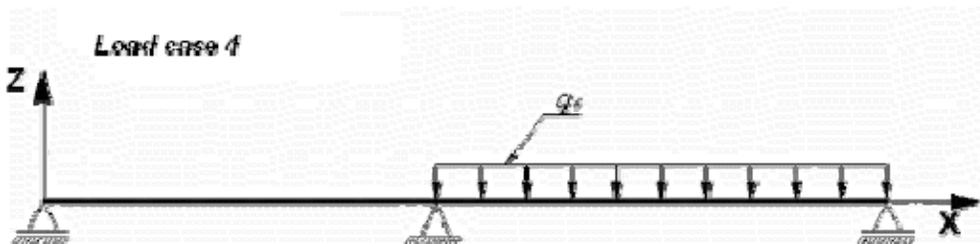

Figure 7.6 Load case No.4 for beam
- load case 4 – uniformly distributed load in the second span $q_4 = 0.87$ t/m (see Figure 7.6);